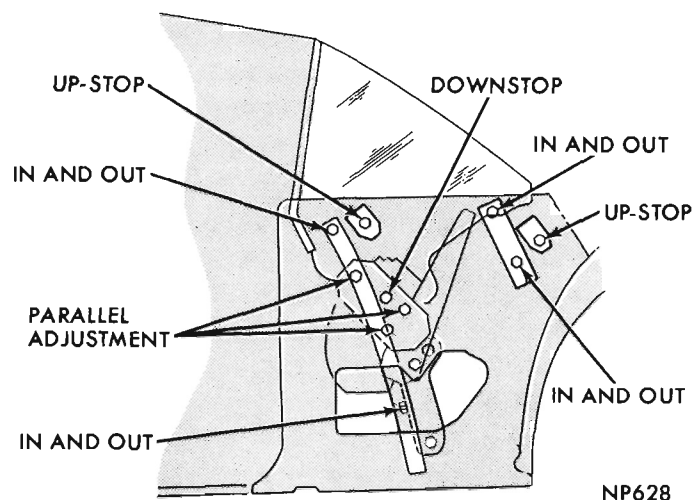

Fig. 9 - Quarter Window Adjustments-Hardtop
- (1) Raise quarter window 2 inches above belt line.
- (2) Adjust top of front and rear tracks (Fig. 9) until glass just touches the outer belt weatherstrip
(3) Raise window to the upper weatherstrip and adjust regulator so glass at front contacts weatherstrip and is parallel to the weatherstrip bead. Tighten regulator screws.
(4) Adjust bottom of front and rear tracks until upper edge of glass seals against roof weatherstrip. Tighten nut on rear track only.
(5) Tighten adjusting screw on bottom of front track to lower brace.
(6) Position front and rear up-stops to glass lower frame stops and tighten screws.
(7) Adjust regulator down stop (Fig. 9) so glass contacts outer weatherstrip lightly for full length.